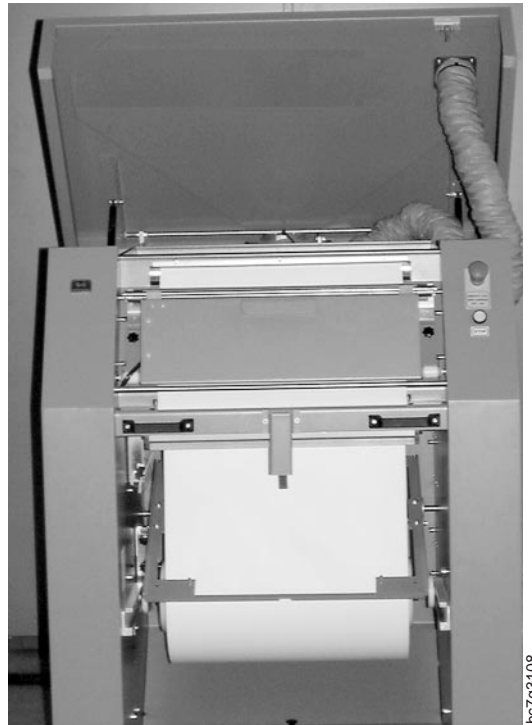

Figure 257. Top Left Button on Paper Supply
- Move the paper supply perpendicular to the web movement by manually pressing the button at the top left of the paper supply, as shown in Figure 257.